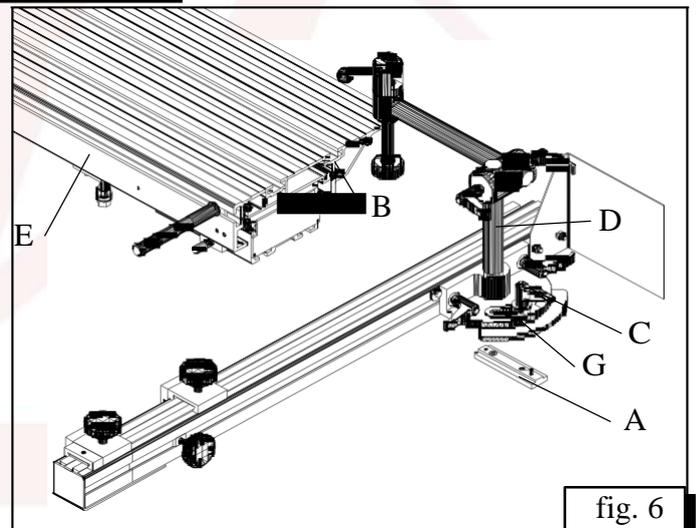

fig. 6
- Fix feather A (fig.6) toward pad C centering along spring pins;